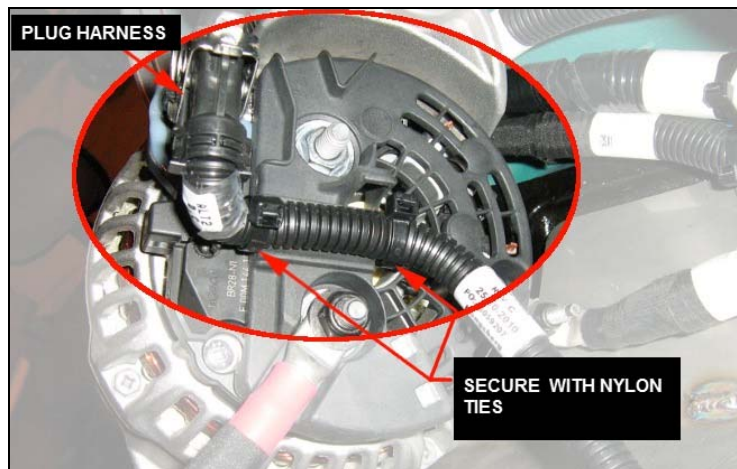

FIGURE 11
- Plug alternator harness onto lower alternator connector and secure using two nylon cable ties #504637 (figure 11).